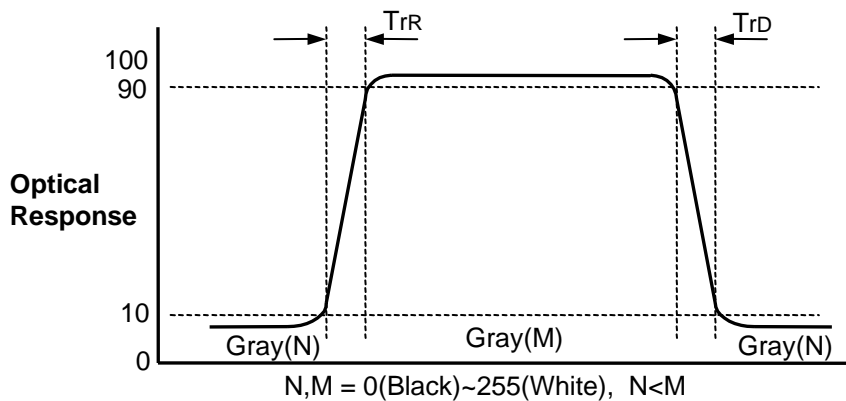

FIG.3 Response Time
4. Response time is the time required for the display to transition from G(N) to G(M) (Rise Time, Tr_R) and from G(M) to G(N) (Decay Time, Tr_D). For additional information see the FIG. 3. (N<M)